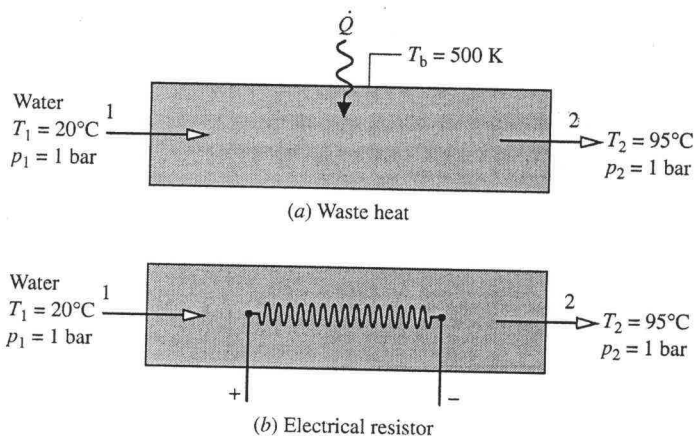

Fig. P7.104
7.104 Figure P7.104 provides two options for generating hot water at steady state. In (a), water heating is achieved by utilizing *industrial waste heat* supplied at a temperature of 500 K. In (b), water heating is achieved by an electrical resistor. For each case, devise and evaluate an exergetic efficiency. Compare the calculated efficiency values and comment. Stray heat transfer and the effects of motion and gravity are negligible. Let $T_0 = 20^\circ\text{C}$, $p_0 = 1$ bar.